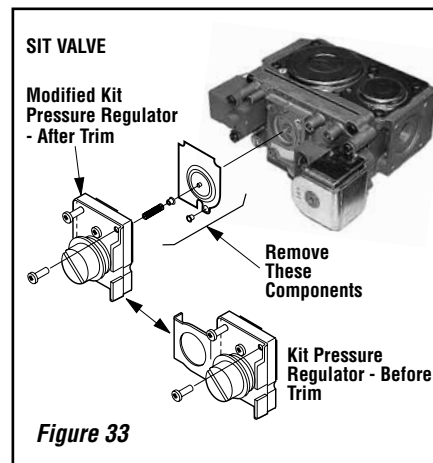

Figure 33
Step 7. SIT Electronic Valves - See **Figure 33** and the instructions provided with the kit. Remove the slotted cap screw, o-ring, pressure-regulating adjusting screw and spring, then discard.